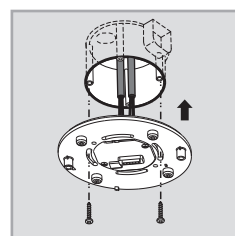

FIG.15
3.3.3.3 Fit the power box into standard junction box then fix them with two screws (See FIG.15).